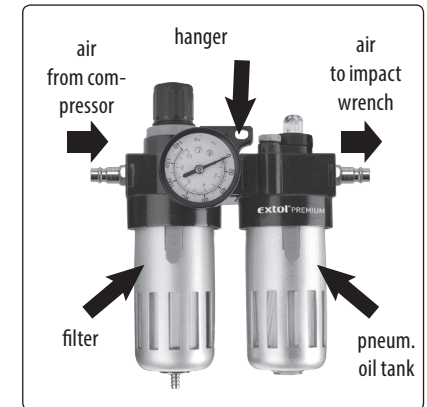

Fig. 8, description of the treatment unit Extol® 8865105
2. At the inlet to the treatment unit connect the air hose from the compressor. At the air outlet from the treatment unit, connect the air hose and connect it to the air inlet on the impact wrench, see fig. 8.